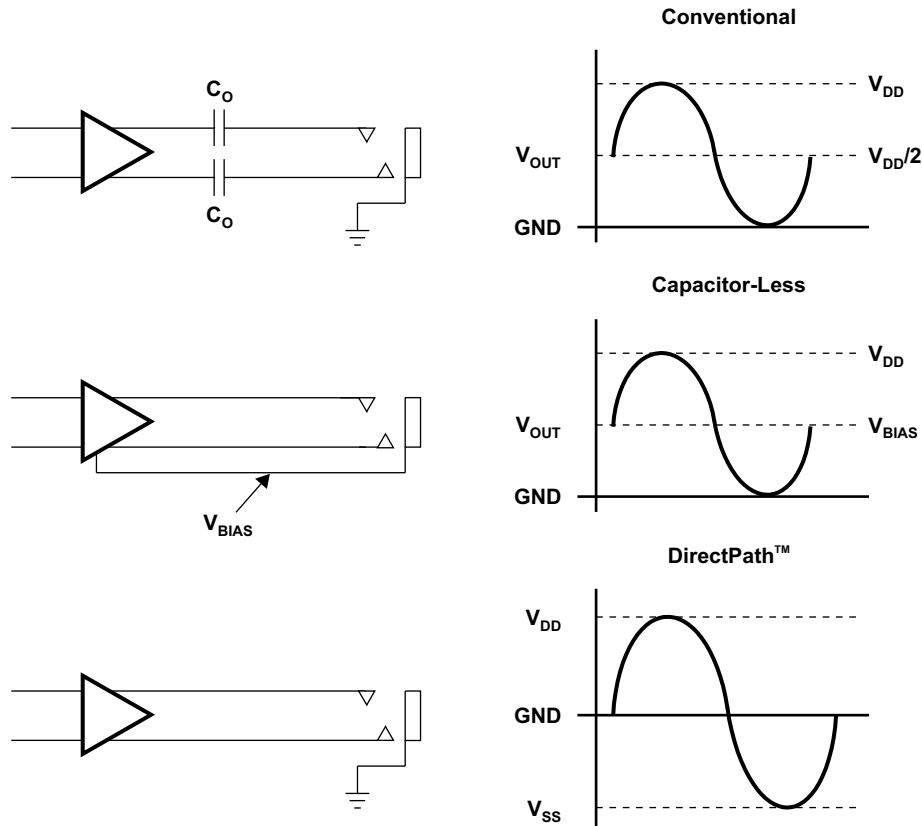

Figure 44. Amplifier Applications
The headphone amplifier has a fixed gain of  $-1.5$  V/V. It uses single-ended (SE) inputs. The DirectPath™ amplifier architecture operates from a single supply but makes use of an internal charge pump to provide a negative voltage rail. Combining the user-provided positive rail and the negative rail generated by the IC, the device operates in what is effectively a split supply mode. The output voltages are now centered at zero volts with the capability to swing to the positive rail or negative rail. The DirectPath™ amplifier requires no output dc blocking capacitors and does not place any voltage on the sleeve. The block diagram and waveform of Figure 44 illustrate the ground-referenced headphone architecture. This is the architecture of the TPA6043A4.
Single-supply headphone amplifiers typically require dc-blocking capacitors. The capacitors are required because most headphone amplifiers have a dc bias on the outputs pin. If the dc bias is not removed, the output signal is severely clipped, and large amounts of dc current rush through the headphones, potentially damaging them. The left-side drawing in Figure 44 illustrates the conventional headphone amplifier connection to the headphone jack and output signal.
Two different headphone amplifier applications are available that allow for the removal of the output dc blocking capacitors. The capacitor-less amplifier architecture is implemented in the same manner as the conventional amplifier with the exception of the headphone jack shield pin. This amplifier provides a reference voltage, which is connected to the headphone jack shield pin. This is the voltage on which the audio output signals are centered. This voltage reference is half of the amplifier power supply to allow symmetrical swing of the output voltages. Do not connect the shield to any GND reference, or large currents will result. The scenario can happen if, for example, an accessory other than a floating GND headphone is plugged into the headphone connector. See the second block diagram and waveform in Figure 44.